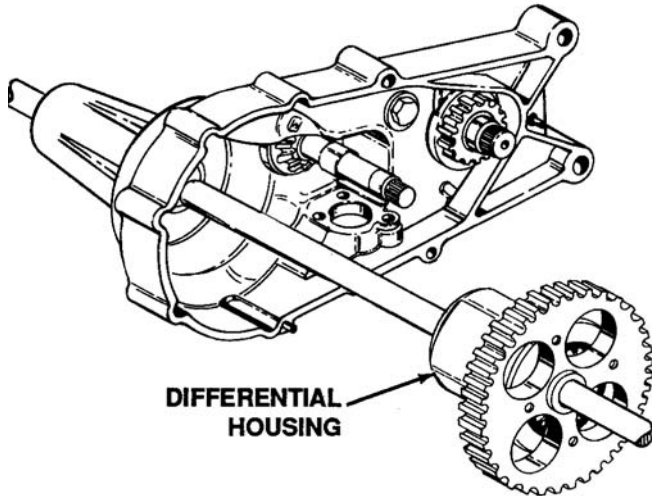

Figure 6-37. Differential Removal
13. Remove differential assembly from housing half. See Figure 6-37.
14. Disassemble differential by removing four socket head bolts and lock washers. See Figure 6-37. Inspect differential gear (72 teeth) for any damage. Replace if necessary.